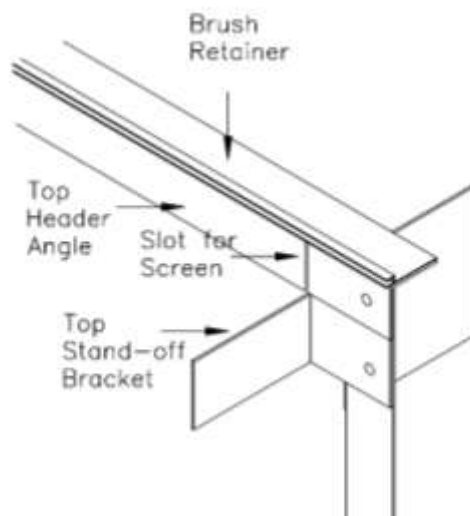

FIGURE 3
5. Next install the top angle to the back of the track assemblies with the horizontal leg of the angle facing the building interior and against the tops of the track assemblies. Use the $\frac{1}{4}$ -20 x 1" machine screws provided to secure the angle to the track assemblies. The brush retainer should be facing the sectional door. Install the brush seal and crimp down. Ensure the brush seal is the same length and the retainer. (See Fig. 3)